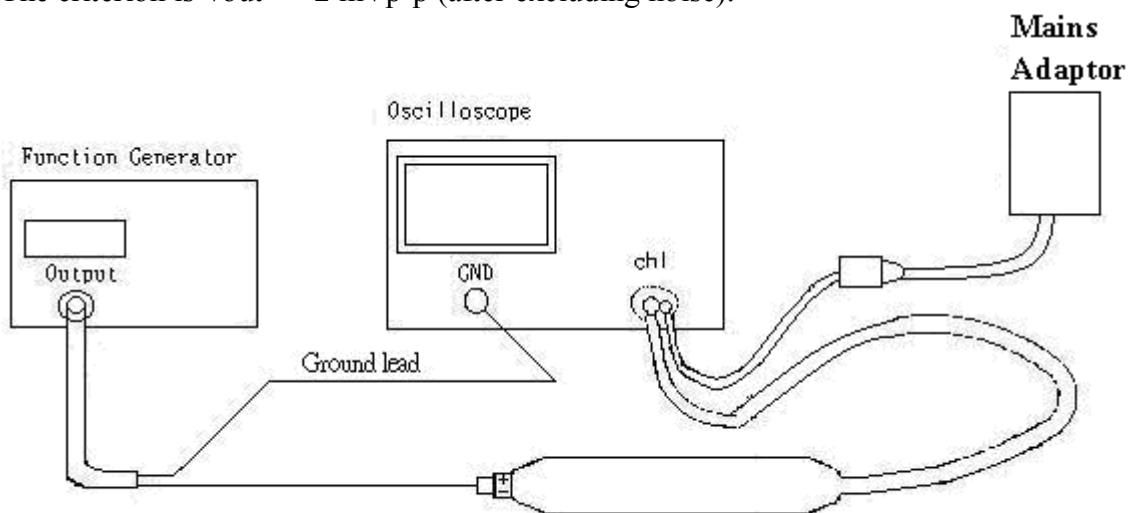

Fig. 8
- G-1. Connect the probe as shown in Fig 8.